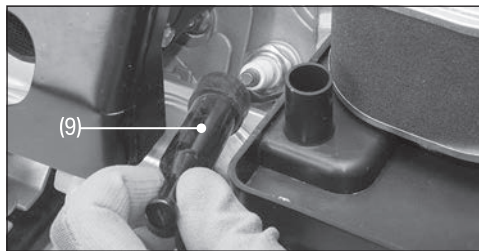

Fig. 19
1. Remove the spark plug cover (9) by hand (Fig.19).